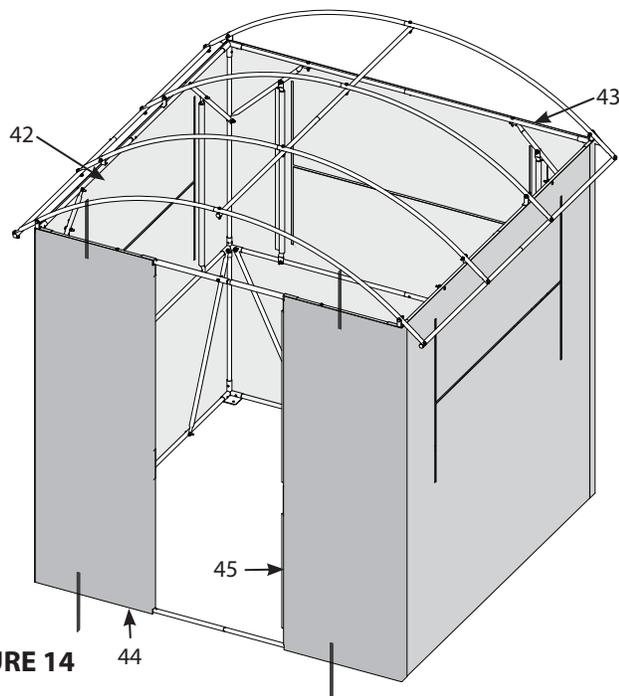

FIGURE 14
14. Hang the left front wall panel (44) and right front wall panel (45) from the top tier of the frame using the one D-ring strap along the top edge of each panel. Then attach the bottom of the panels to the frame using the one D-ring strap along the bottom edge of each panel. Wrap the straps around the frame and secure. **SEE FIGURE 14.**
Next, attach the door edge of the front wall panels (44, 45) to the frame by wrapping around and securing with the hook and loop strips. **SEE FIGURE 14.**
Secure the two front wall panels (44, 45) and back panel (43) to the two side wall panels (42) by matching up the hook and loop attachment strips on the corners. Start at the top and work your way to the bottom. Adjust and redo the D-ring straps as necessary to accomplish a snug fit and take out as much slack in the wall panels as possible. **SEE FIGURE 14.** Securely tighten all loose hardware at this time.